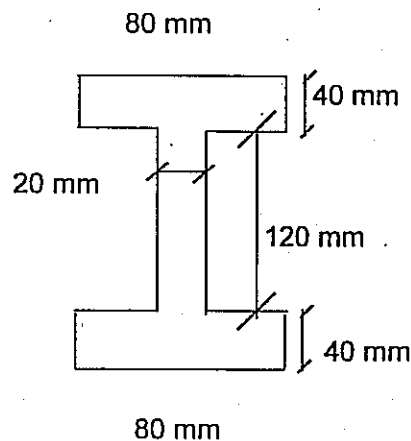

Figure Q7.
7. a.) Cross section of a steel cantilever beam is shown in Fig Q7